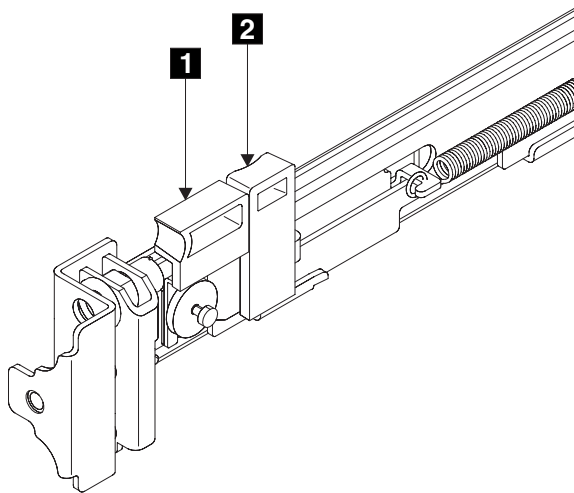

Figure 113. Retracting the latch lock carrier
2. Put your index finger against the side of the latch-lever, **1** in Figure 113 on page 130, and put your thumb against the front of the latch-lock **2**.